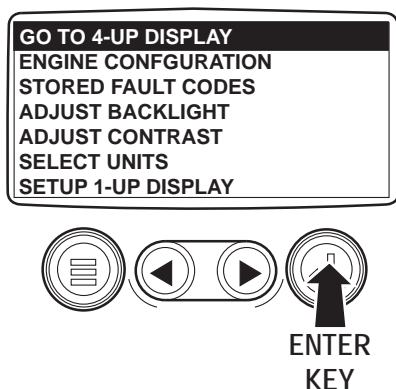

Figure 3 - Main Menu
3. To switch to the 4-Up Display, touch the Menu Key to display the first seven items of the Main Menu. See Figure 3.
4. Since the first menu item listed is GO TO 4-UP DISPLAY, touch the Enter Key to select the 4-Up Display. See Figures 3 and 4.